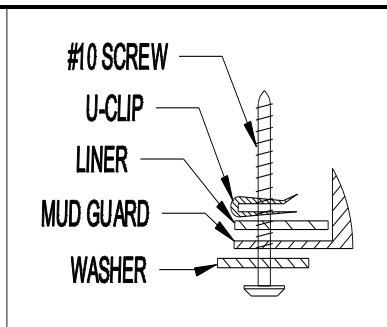

Figure 2
6. Install a #10 screw and washer at location D, thru mud guard, fender liner and into a U-clip placed on the backside of fender liner (Figure 2).